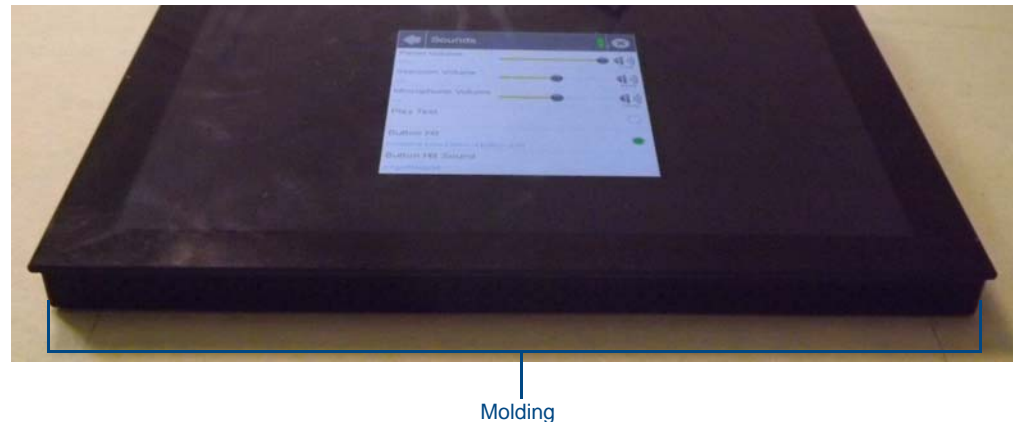

FIG. 20 Underside of MXD-1000
1. The bottom (Landscape) or right side (Portrait) of the MXD-1000 has a series of ventilation holes along the molding (FIG. 20). From each end, count to the eighth and ninth holes on the row closest to the panel.